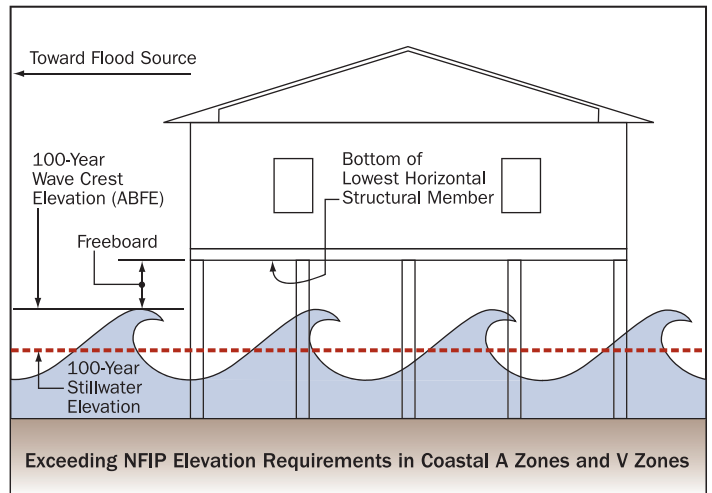

Figure 7. Recommended construction in Coastal A zones and V zones.
- In flood Zones V and A, use a DFE that results in freeboard (elevate the lowest floor above the BFE) (see Figure 7).
- In an A zone subject to moderate waves (1.5 to 2.9 ft high) and/or erosion (i.e., a Coastal A zone), use a pile or column foundation (see Figure 7). See the Hurricane Ike Recovery Advisory at <http://www.fema.gov/library/viewRecord.do?id=3539> for details on Coastal A zones.